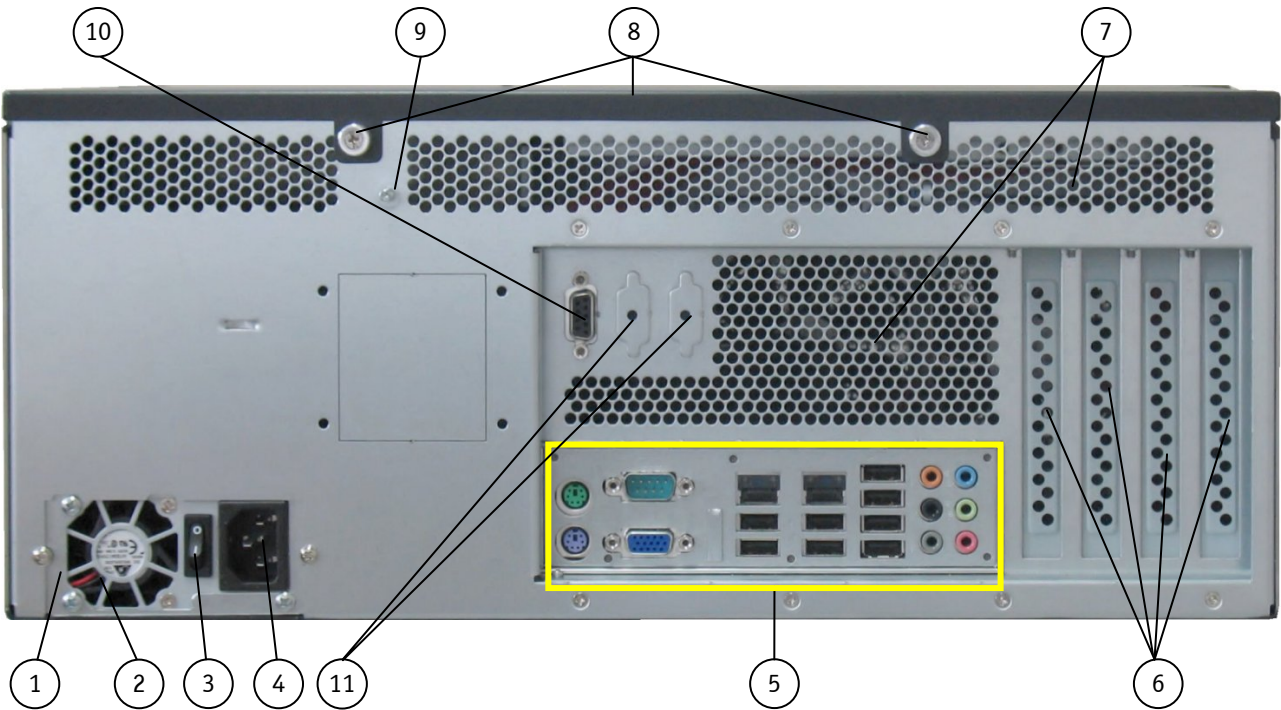
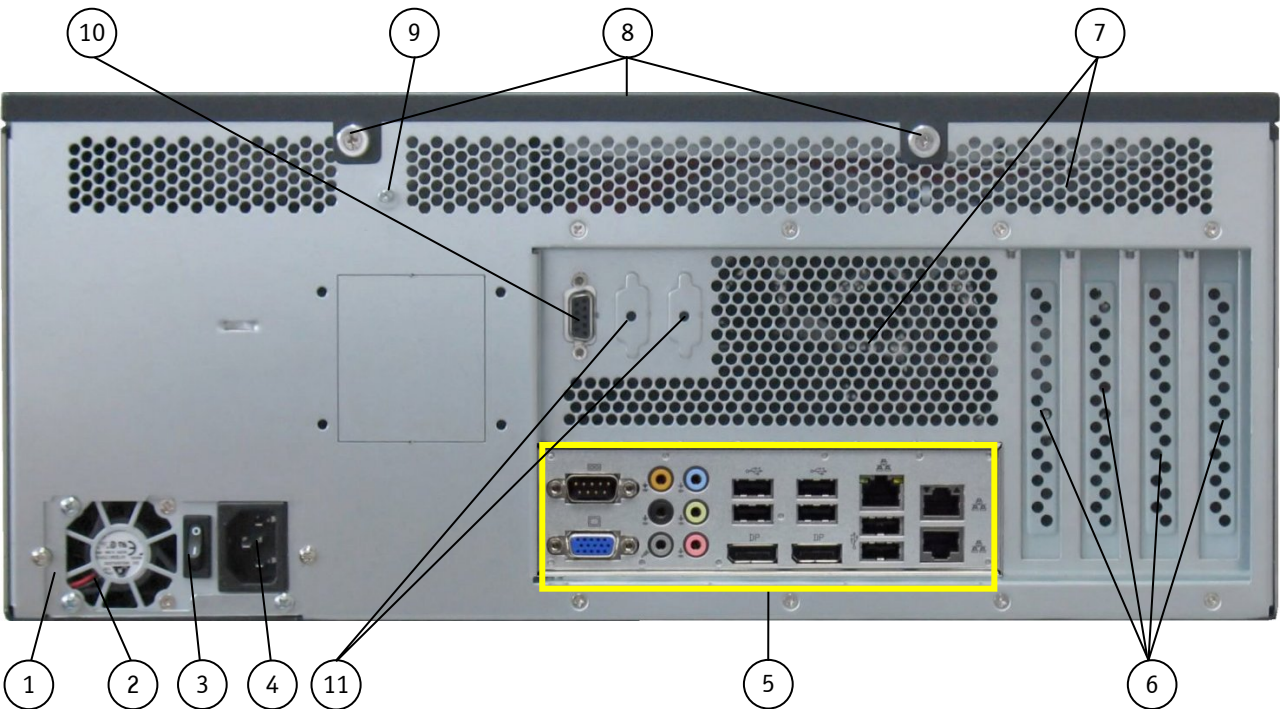
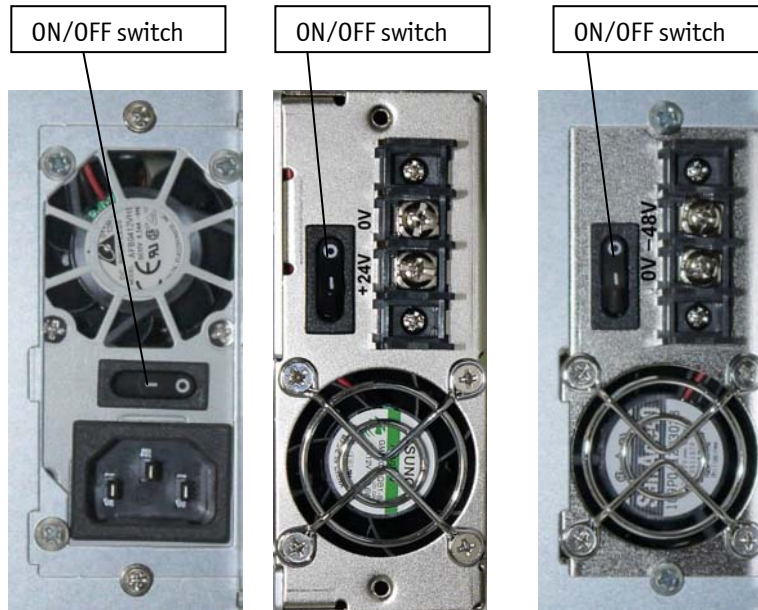

Fig. 12: Rear side of a KISS 4U Short V2 platform (shown with KTQ45/Flex motherboard)
Fig. 13: Rear side of a KISS 4U Short V2 platform (shown with KTQ67/Flex motherboard)
Fig. 16: Detail:
- the knurled screws (Fig. 12, pos. 8 and Fig. 25) on the rear side
**Legend for Fig. 12 and Fig. 13:**
The on-board serial interface is routed to the rear panel or your system can be extended with an additionally ordered EASY 485/422 module (refer to Fig. 12 and Fig. 13, pos. 10). You can connect peripheral devices to these connectors.
Please observe that the ON/OFF switch of the AC wide range PSU (Fig. 16) does not disconnect the KISS 4U Short V2 platform from the mains power source. Even you turn off the system via the power button (Fig. 9, pos. 3 and Fig. 10, pos. 1) or via the ON/OFF switch (Fig. 12, pos. 3) of the PSU there is still a standby-voltage of 5 VSb on the motherboard.
The grounding stud is located on the rear side of the KISS 4U Short V2 platform (Fig. 12 and Fig. 13, pos. 9).